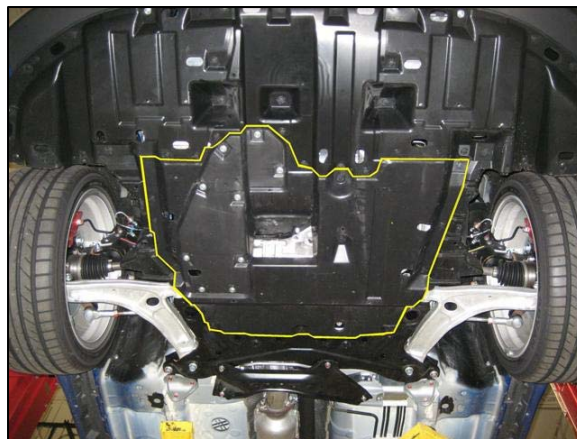

Fig. 2
2. Locate the plastic engine compartment covers under the vehicle. Remove the rear-most center cover, shown outlined in yellow in figure 2. The cover is secured by plastic clips. Use a prying tool such as a flat blade screwdriver to pop up the center section of the clip, and then pull the clip out by hand (clips, flatblade screwdriver).